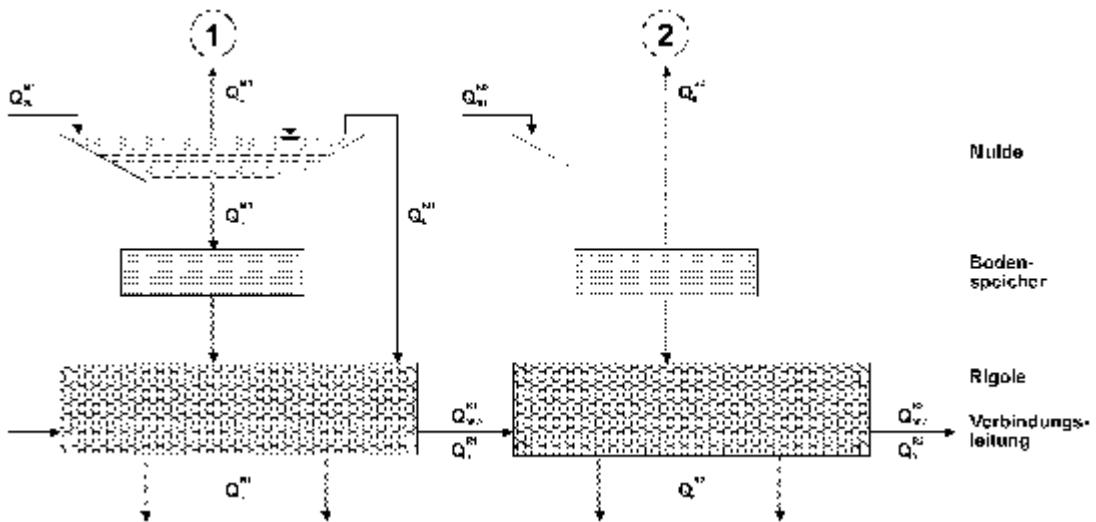

Figure 5-2: Flow scheme for storage simulation shown using two swale-trench units
The calculation continues with the simulation of the storage processes. Inflows and discharges are balanced at the storage element according to Section 4.5.12 taking the evapotranspiration (optional with swales) and the translation effects (from discharges of upstream lying trenches) into consideration. The water flows which are balanced are depicted in Figure 5-2 for two swale-trench units. If a further storage element exists in the downstream direction or as an independent strand (in Figure 5-2, trench 2),
- the evaporation from the swale (Q_E^{MI}) and swale bed (only for emptied swales, e.g. Q_E^{B2} in Figure 5-2) storage elements.